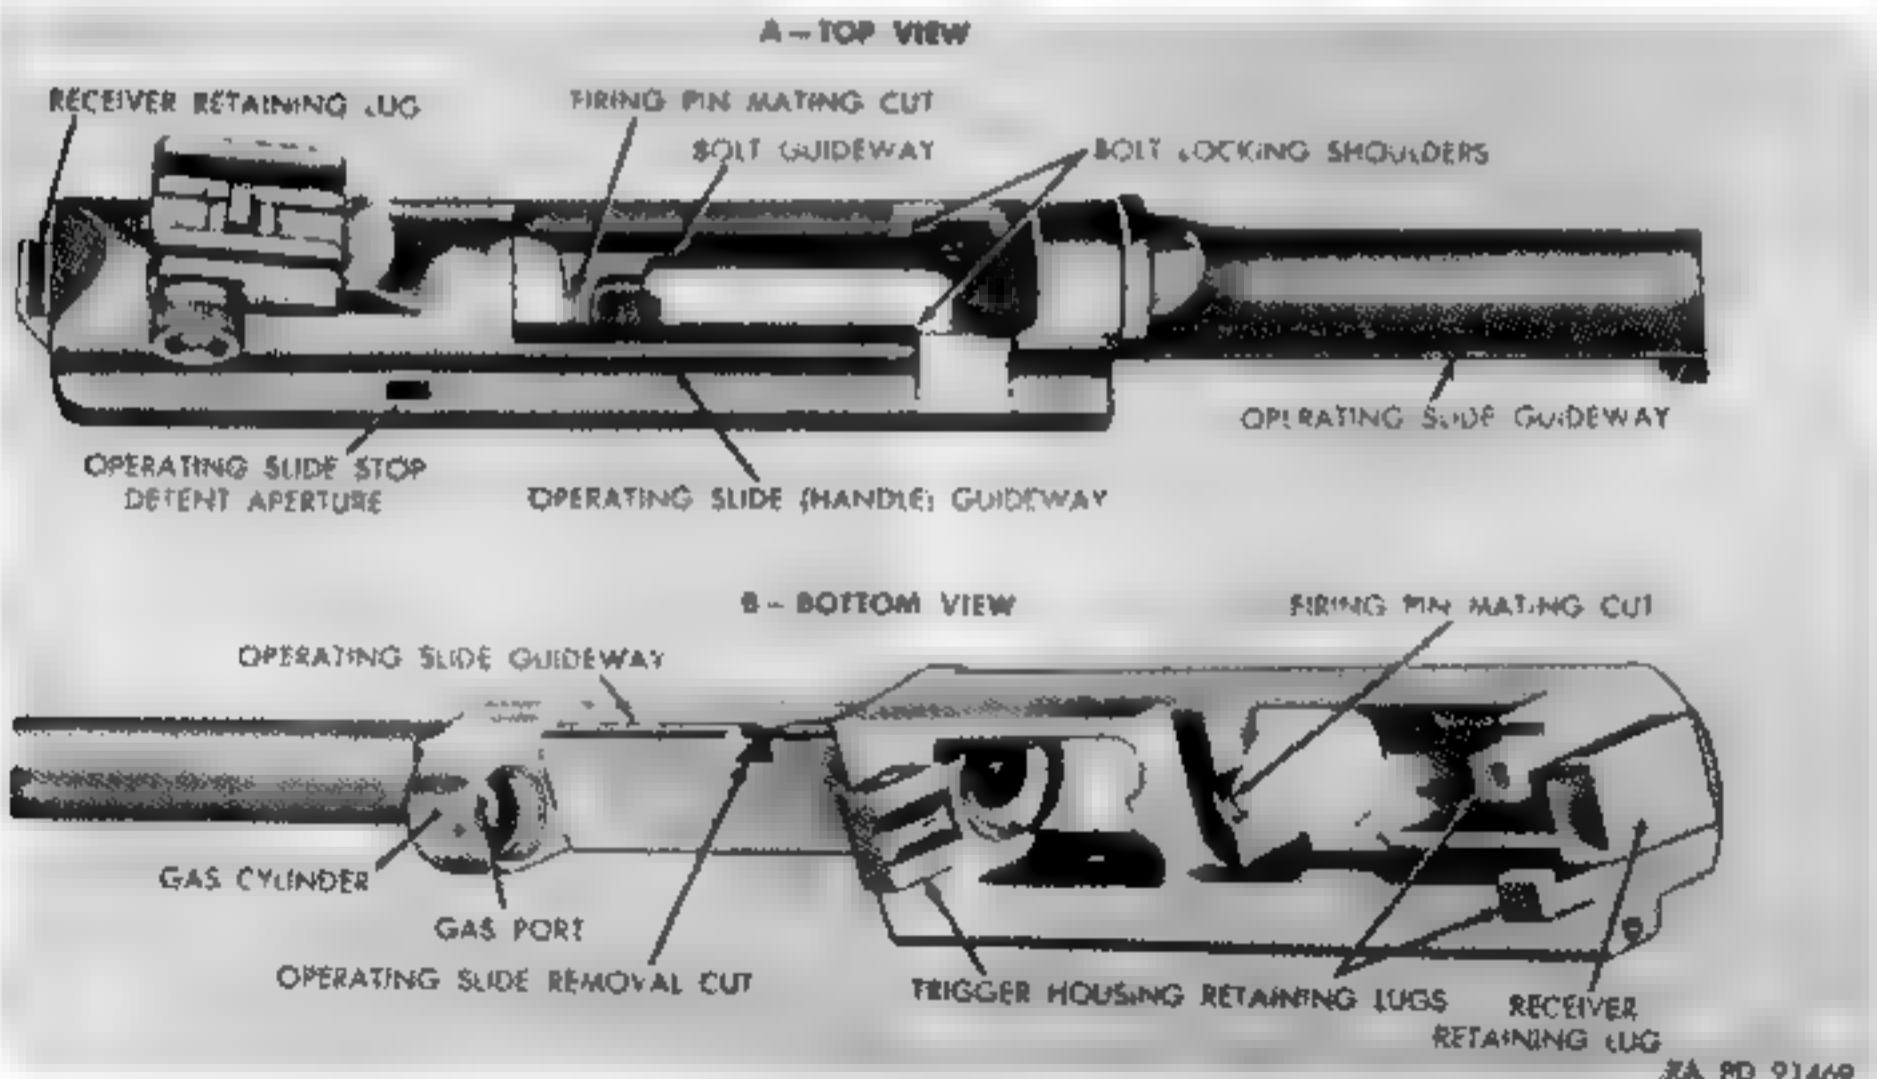

Figure 78. Barrel and receiver group – points of inspection.
(1) Inspect operating slide spring well for rust or foreign matter. Visually inspect receiver for break-through of the operating slide spring hole. This break-through occurred in the original manufacture of some receivers because of the drill running out through either the bottom or right-hand exterior surfaces. If the forward end of the break-through is 3 inches or more from the front end of the receiver, it is acceptable; otherwise, it must be rejected (DEPOT MAINTENANCE ONLY). Any sharp or feather edges around this break-through are to be removed.
- (2) Inspect receiver under "black light" (Magnaglo or approved equal) for cracks in the area around the bolt locking slot at the right hand side and at the front and rear trigger housing retaining lugs (DEPOT MAINTENANCE ONLY). Receivers having cracks extending in both directions around a corner must be rejected.
- (3) Visually inspect condition of firing pin retracting cam mating cut in the bridge of receiver (Fig. 78). This cam was cut to an angle of 33 degrees in the earlier manufacture of receivers and later to 45 degrees. Both are acceptable if in good condition.
- (4) Visually inspect trigger housing retaining pinhole in the receiver. If out of-roundness is apparent, reject the receiver (DEPOT MAINTENANCE ONLY).
- (5) Inspect the bullet ramp in the receiver to assure it is clean and smooth for proper feeding of the ammunition. Burns and sharp edges should be removed by careful polishing with fine emery cloth. The lower edge of the
- (6) Inspect receiver for looseness with barrel, deformation, rust and burns. If receiver is disassembled from barrel, inspect for worn or crossed threads in barrel aperture (DEPOT MAINTENANCE ONLY).
- (7) Inspect bolt guideway and locking shoulders for wear, burrs, cracks, and foreign matter. Inspect receiver retaining lug on rear end (Figs. 78 and 104) for wear, burns, and looseness with recoil plate when assembled to stock.
- (8) Inspect operating slide guideway on right side for wear, burrs, and foreign matter, and operating slide removal cut for wear and burrs. Inspect operating slide stop detent aperture for wear, burrs, and foreign matter. Forward surface of aperture should be at a sharp right angle to receiver, and with a clean edge to facilitate retention of stop, and rear face smooth and sloping to facilitate camming. Inspect the rear inside face of receiver for foreign matter.
- (1) The muzzle of all barrels must be counterbored (Fig. 78) during rebuild to remove tool marks, nicks,